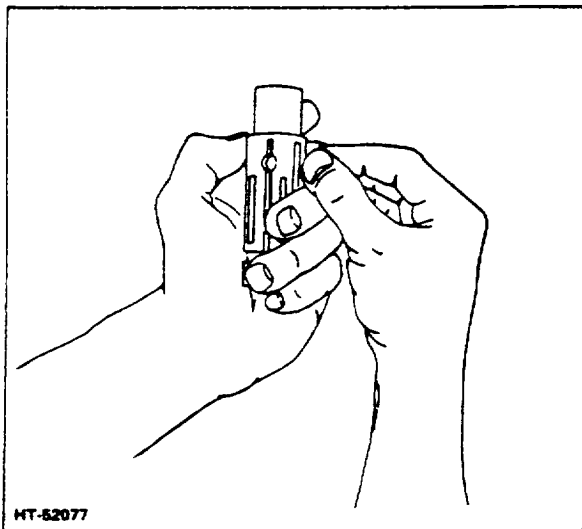

Figure 3-12. Removing Spring From Spool
19. Push the centering spring set out of the spool (Fig 3-12).